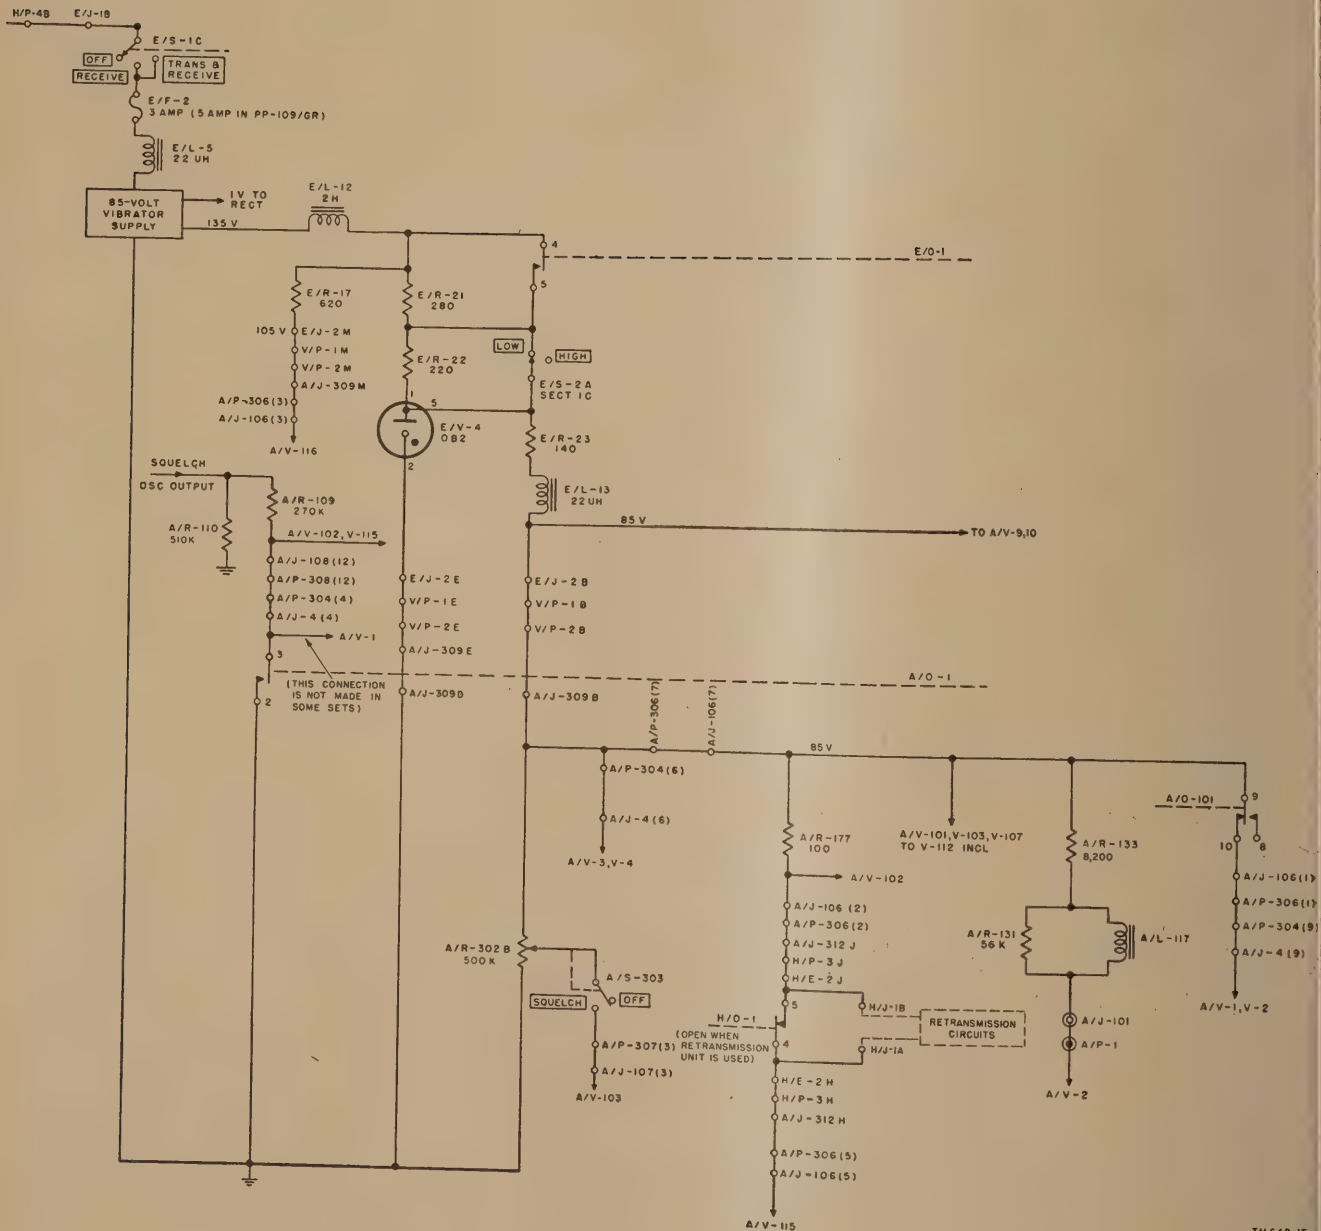
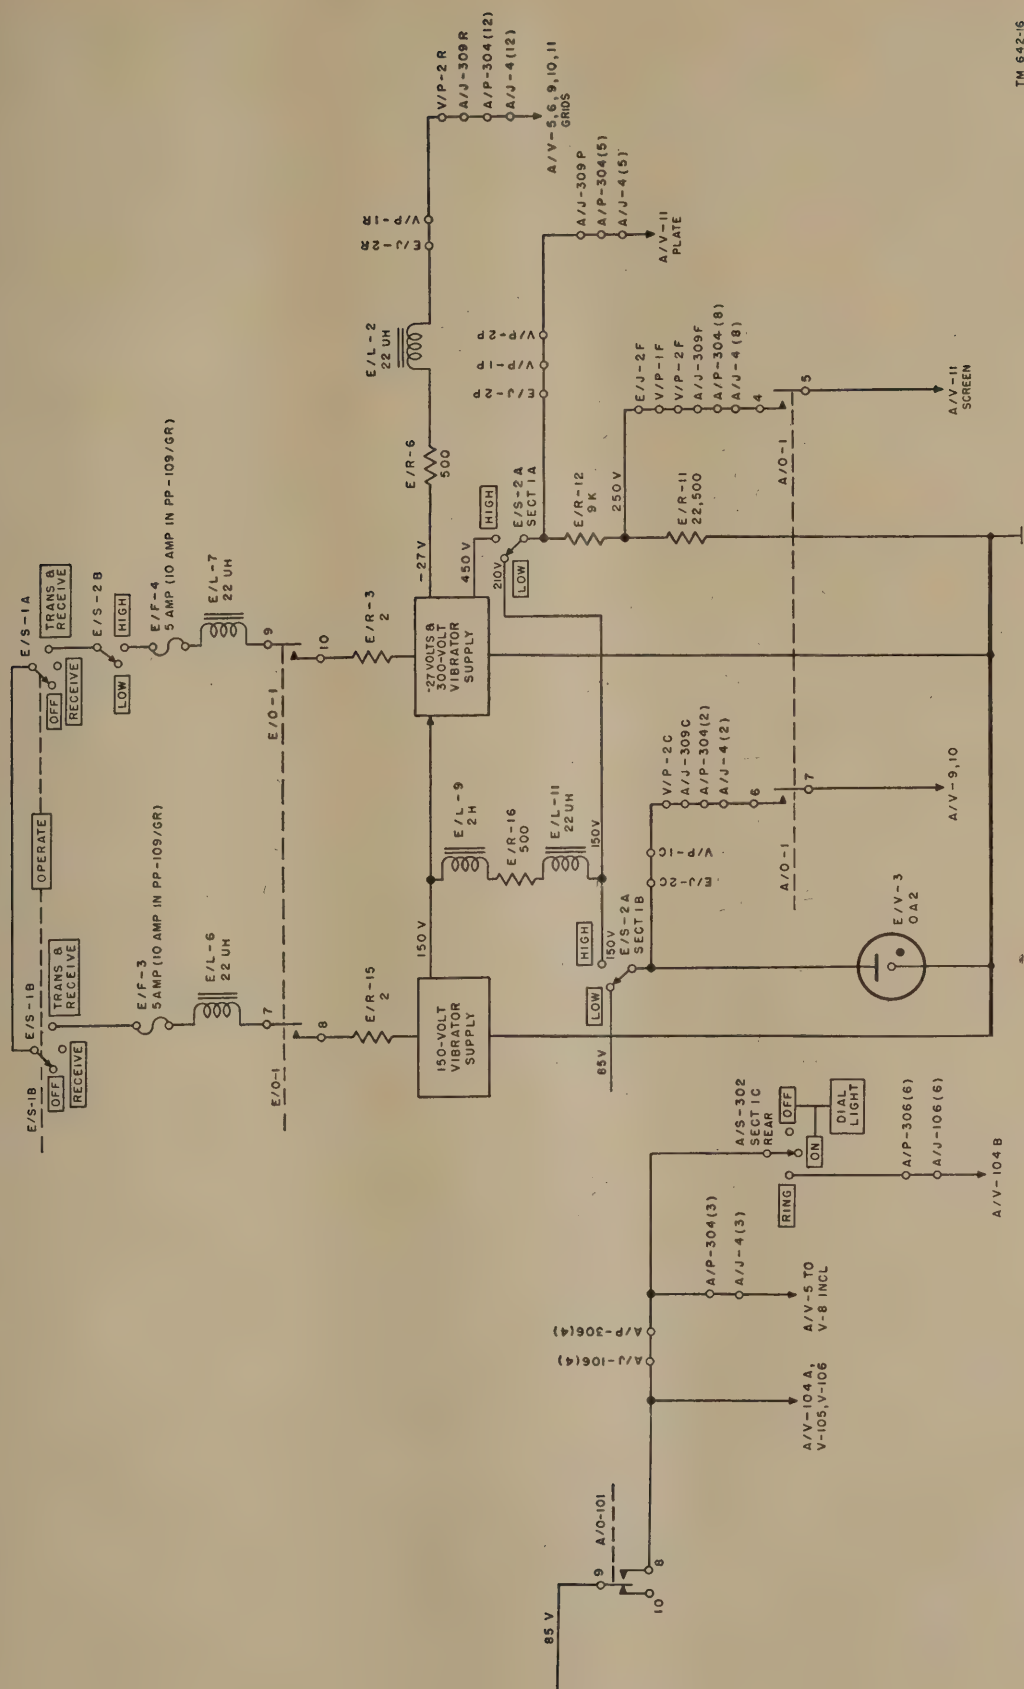

Figure 38. Receiver plate circuits of receiver-transmitter
Figure 39. Transmitter plate circuits of receiver-transmitter.
- (5) The protection circuit for the transmitter filaments is similar to that used for the receiver filaments. The parallel ballast tubes are necessary because of the greater current flow through the transmitter filaments.
d. Plate and Screen Circuits (figs. 38 and 39). The plate and screen potentials of the receiver-transmitter are supplied by three vibrators within the receiver-transmitter power supply. Two of the vibrators, with output voltages of 150 and 300 volts, supply transmitter tube circuits only (fig. 39). The low voltage of 85-volt vibrator supplies both transmitting and receiving tube circuits (fig. 38 and 39). The 150-volt vibrator input circuit includes the TRANS & RECEIVE position of E/S-1B, fuse E/F-3, r-f filter choke E/L-6, normally open contacts 7 and 8 of E/O-1, and voltage dropping resistor E/R-15. The 300-volt vibrator input circuit is completed only for high power transmission. The circuit includes the TRANS & RECEIVE position of E/S-1A, the HIGH position of TRANS POWER switch E/S-2B, fuse E/F-4, r-f filter choke E/L-7, normally open contacts 9 and 10 of relay E/O-1, and voltage dropping resistor E/R-3. Two relays, A/O-101 and A/O-301, within the receiver-transmitter render the receiver inoperative when the transmitter is functioning, by removing potential from some of the receiver tubes and by switching the antenna from the receiver input to the transmitter output. Low or high power transmission is selected by the TRANS POWER switch (E/S-2A and E/S-2B) which is used to change the potentials supplied to some of the transmitter plate and screen circuits.
- (1) *Receiving circuits.* Battery potential is applied to the 85-volt vibrator through switch E/S-1C (fig. 38). The 135-volt output of this vibrator is supplied through r-f filter choke E/L-12 and voltage dropping resistor E/R-17 to the second a-f amplifier, A/V-116, and through voltage dropping resistors E/R-21 and E/R-22 to a voltage regulation circuit within the power supply. E/R-21 is shorted out during transmitting periods by the closure of contacts 4 and 5 of relay E/O-1.
- (2) *Transmitting circuits* (fig. 39). The plates and screens of all transmitting tubes are supplied with potential after relays E/O-1, A/O-101, and A/O-1
(b) *Low power transmission.* If the TRANS POWER switch (E/S-2) is set at LOW, the following circuit changes are effected: the input to the 300-volt vibrator supply is broken (E/S-2B); tube A/V-11 is switched from the 450-volt supply to the 150-volt supply by section 1A of switch E/S-2A; tubes A/V-9 and A/V-10 are switched from the 150-volt supply to the 85-volt supply; resistor E/R-22 in the 85-volt supply lead (fig. 38) is short-circuited to compensate for the increased drain of A/V-9 and V-10 on that supply.